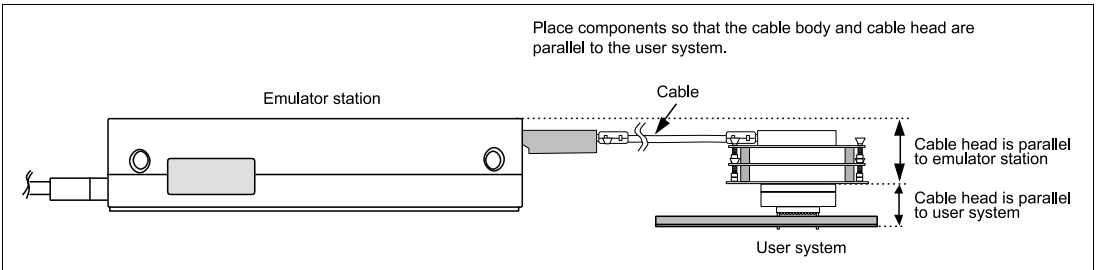

Figure 15 User System Interface Cable Location Example
5. While the emulator station is connected to the user system with the user system interface cable, force must not be applied to the cable head. Place the emulator station, user system interface cable, and user system as shown in the example in figure 15.